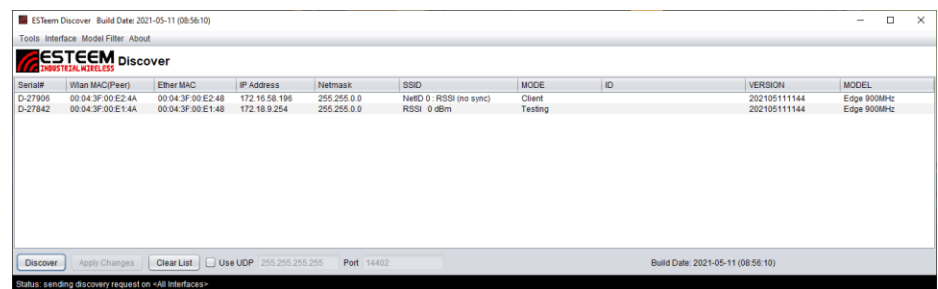

Figure 8: Radio Discovered
4. The ESTeem Edge 900 will be displayed (Figure 8). If the ESTeem Edge 900 is not on the same IP subnet as the computer, double click on the IP and/or Netmask and make the necessary changes. Press the *Apply Changes* button when complete.